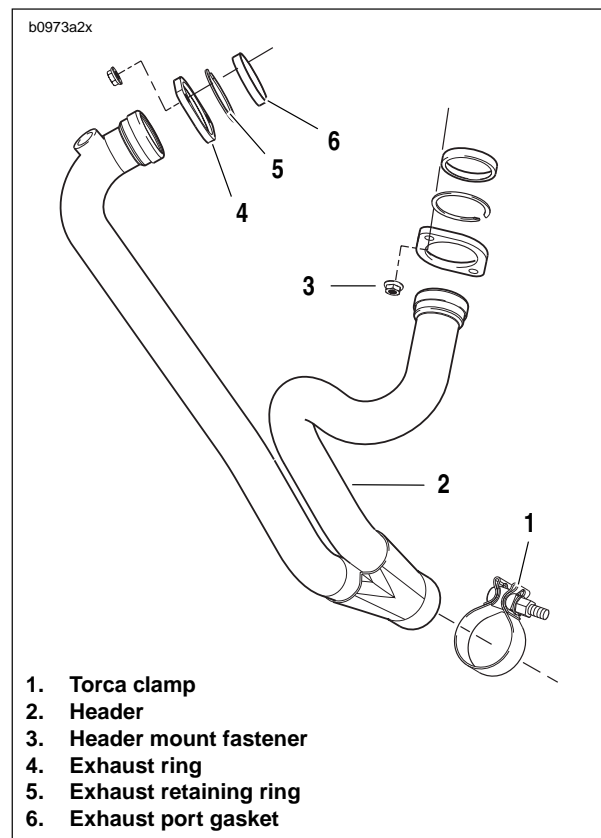

Figure 2-109. Exhaust Header
**Rear:** Alternately loosen rear strap fasteners (1) and remove straps (2).
6. See Figure 2-109. Loosen Torca clamp (1) and lower muffler.
3. See Figure 2-109. Remove exhaust header (2) by removing mounting fasteners (3).
4. Remove exhaust ring (4), retaining ring (5) and port gasket (6).
1. See Figure 2-109. Install exhaust ring (4), retaining ring (5) and **new** port gasket (6).
2. Install exhaust header (2). Tighten mounting fasteners (3) to 72-96 **in-lbs** (8-11 Nm).
5. See Figure 2-109. Tighten the Torca clamp (1) to 28-30 ft-lbs (38-40.6Nm).